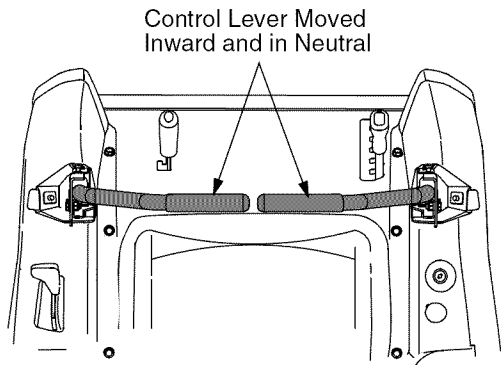

Figure 12
- Move the RH and LH drive control levers inward in the neutral position. See Figure 12.